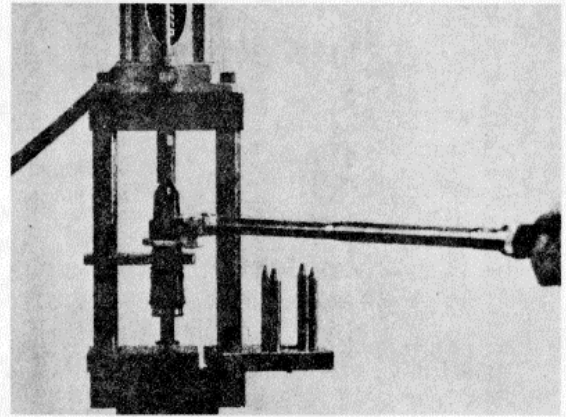

Figure 16H-2. Loosening the Cup Retainer
7. Activate the air cylinder, or tighten the special screw, to hold the injector in place. Loosen the cup retainer but do not remove it, Figure 16H-2.